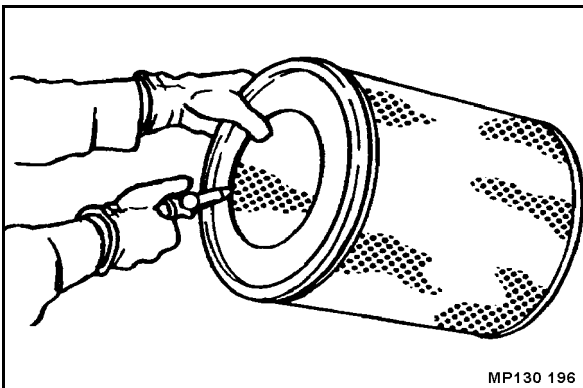

Fig. 185
- Blow the air filter (Fig. 185) out with compressed air (max. 5 bar (70 psi)) from inside to outside by moving the tube up and down inside the element, until it is free of dust.